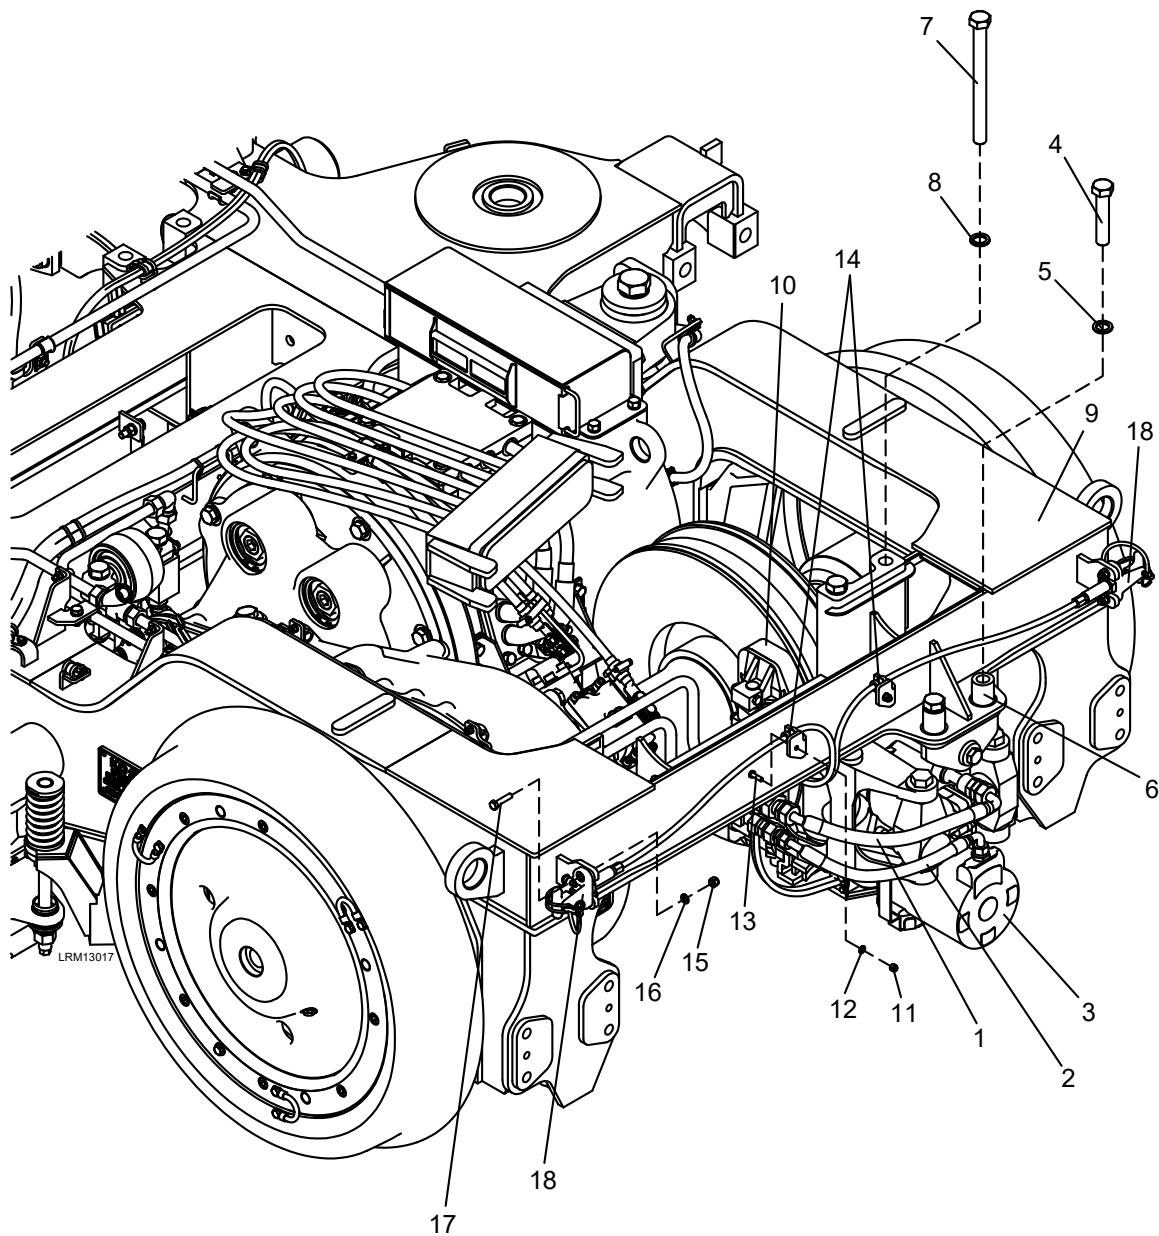

Figure 5-3: Motor Truck Disc Brake Unit
1. Use a lifting sling to support the disc brake unit (3) before removal.
2. Disconnect the air supply to the air hoses (1 and 2) from the disc brake unit (3) by looking at the indicator on the handle for the brake cylinder cutout valve and reposition the valve handle so that the indicator is perpendicular to the piping and the valve is closed. Release the parking brakes by using the parking brake release handle (18). See Figures 5-3 and 5-7.
3. Remove the air hoses (1 and 2) from the disc brake unit (3).
4. Remove the two M20 x 100 bolts (4) and M20 Nord-Lock washers (5) from the extension sleeves (6).
5. Remove the extension sleeves (6).
6. Remove the two M20 x 230 bolts (7) and M20 Nord-Lock washers (8) from the truck frame (9).